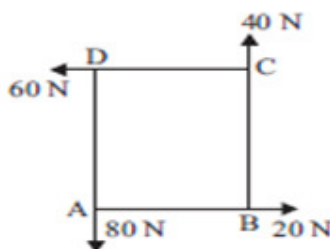

Figure 1
- b) What do you understand by resultant of a force system and which are the methods used for determining the resulting of coplanar concurrent force system? Four forces having magnitudes of 20N, 40N, 60N and 80N respectively, are acting along the four sides (1m each), of a square ABCD taken in order, as shown in figure 1. Determine the magnitude and direction of the resultant force.